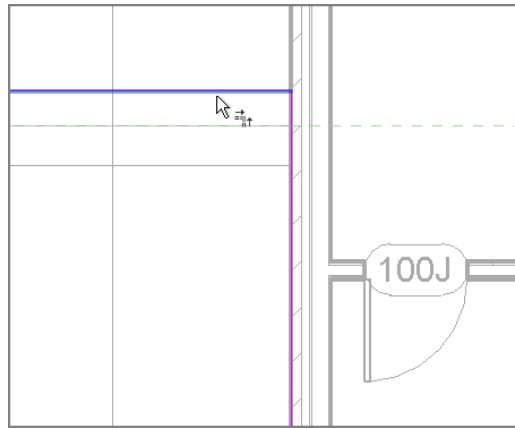

FIGURE 7.25: Using the Trim command in conjunction with the roof sketch
1. On the Modify | Create Roof Footprint tab, select the Trim/Extend To Corner command, as shown in Figure 7.25.
2. Trim the intersections that overlap. There are four of them (see Figure 7.25).